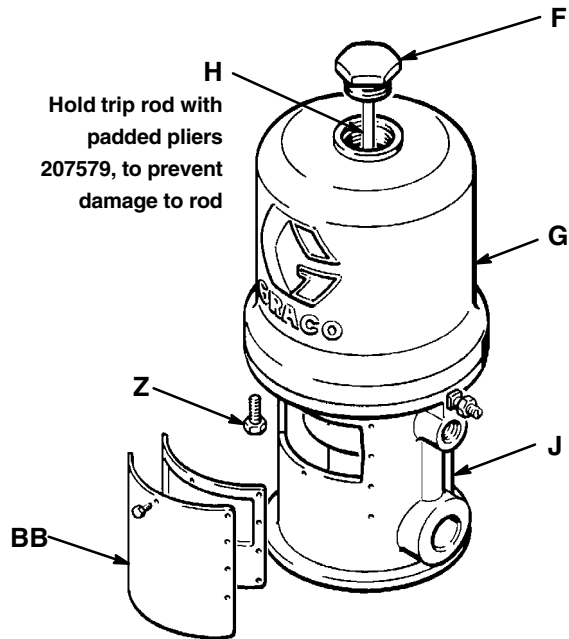

Fig. 2
3. Manually push up on the piston rod to move the piston assembly to the top of its stroke. Unscrew the cylinder cap nut (F) from the cylinder (G). Pull up on the cap nut. Grip the trip rod (H) with padded pliers 207579 and screw the cap nut off the trip rod. See Fig. 2.
4. Remove the eight screws (Z) holding the cylinder (G) to the base (J). Carefully pull the cylinder *straight up* off the piston. See Fig. 2.